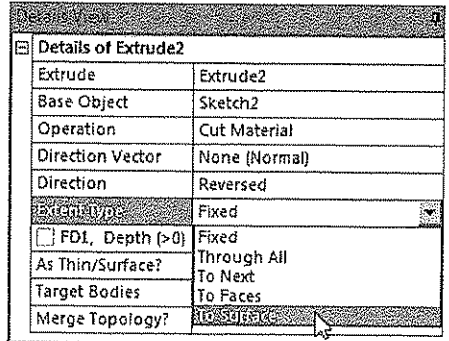

Figure 3-108 Selecting the To Surface option from the Extent Type drop-down list in the Details View window
13. Select the **To Surface** option from the **Extent Type** drop-down list, refer to Figure 3-108; the **Target Faces** selection box is added in the **Details View** window.